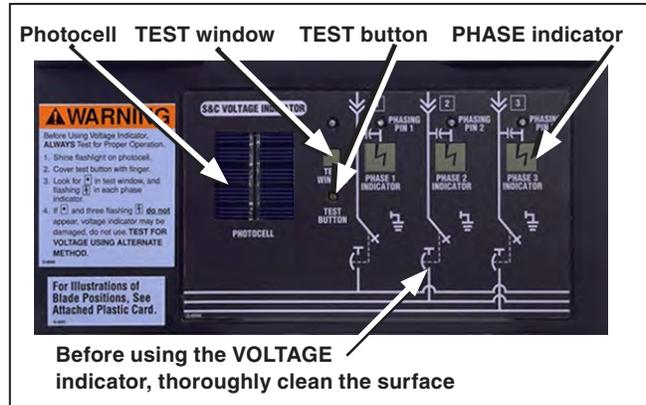

Figure 40. The VOLTAGE indicator with the Test feature.
STEP 1. Clean the surface of the VOLTAGE indicator to remove dirt and debris. See Figure 40.